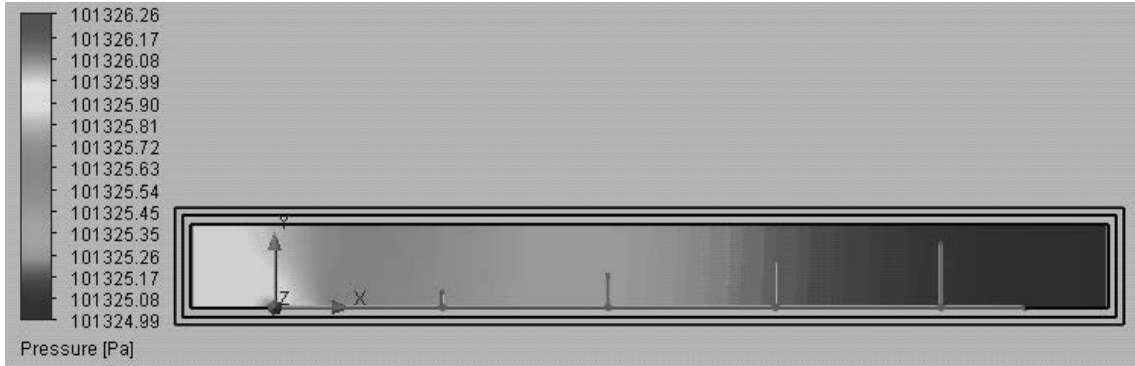

Figure 2.23a) Pressure distribution along the flat plate.
- Open the **Results** folder, right click on  Cut Plots in the  **Flow Simulation analysis tree** under **Results** and select **Insert...**. Select the **Front Plane** from the **FeatureManager design tree**. Slide the **Number of Levels** slide bar to **255**. Select **Pressure** from the **Parameter** drop-down menu. Click OK to exit the **Cut Plot** window. Figure 2.23a) shows the high pressure region close to the leading edge of the flat plate. Rename the cut plot to **Pressure**. You can get more lighting on the cut plot by selecting **Tools>>Flow Simulation>>Results>>Display>>Lighting** from the SOLIDWORKS menu. Right click on the **Pressure Cut Plot** in the **Flow Simulation analysis tree** and select **Hide**.